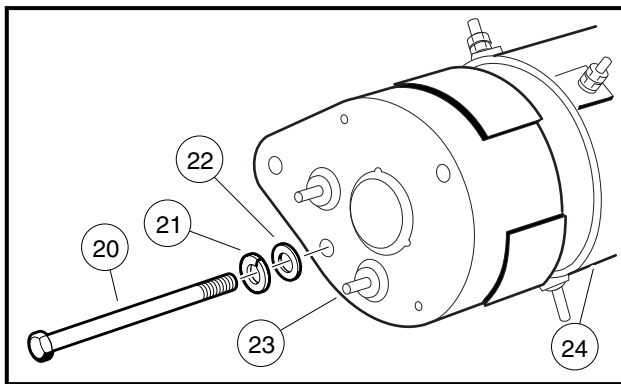

FIGURE 12-37
1. Remove the two bolts (20) and washers (21 and 22) and pull commutator end cover (23) free of starter housing (24) (**Figure 12-37**). See NOTE below.
3. Install the commutator end cover (23) onto the armature shaft. Align the locating pin with the pin hole in the cover. Install the two M6 x 180mm screws (20) and tighten to 95-104 in.lbs. (10.6/11.6 N-m) (**Figure 12-37, Page 108**).
1. Remove two bolts (20) and washers (21 and 22), and pull commutator end cover (23) free of the starter housing (24) (**Figure 12-37, Page 108**). See **WARNING** and **NOTE** below.